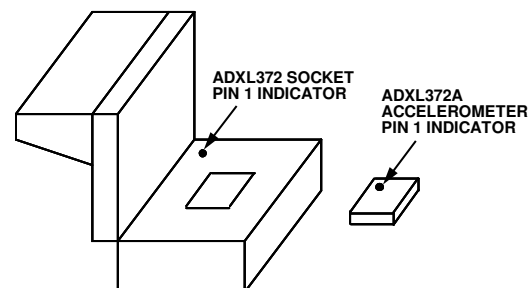

Figure 10. Location of Pin 1 Indicator for the ADXL372 Accelerometer and Socket
1. Place the ADXL372 accelerometer into the socket on the satellite board. The Socket Pin 1 indicator is located inside the socket near the hinge, as shown in Figure 10. Ensure that this pin indicator aligns with the Pin 1 indicator on the ADXL372.